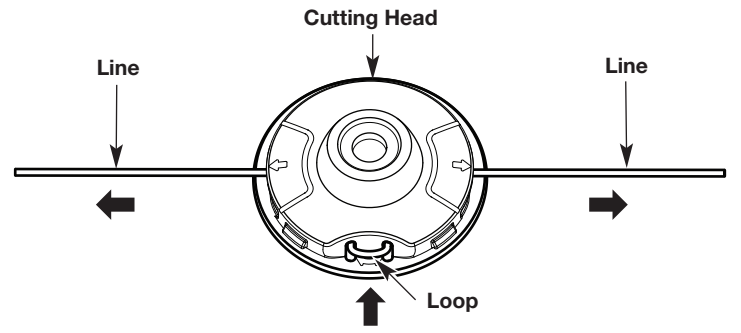

Fig. 19
4. Pull the ends of the line until the line is tight against the cutting head. Make sure the ends of the line are of equal length (Fig. 19). If one end is longer than the other, push the longer end back through the cutting head partway and pull the shorter end out. If necessary, repeat this process until both ends are of equal length.
5. Press the exposed loop of trimming line until it is tight against the cutting head (Fig. 19).